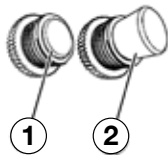

Figure 7 - Breakers - (1) Operating Position
6. Slowly add gasoline into the fuel tank. Be very careful not to overfill the tank. The gasoline level should NOT be higher than the filler neck (see Figure 7).
6. Make sure the circuit breakers are properly set (see Figure 7 below).
5. Make sure the circuit breakers are properly set (see Figure 7).